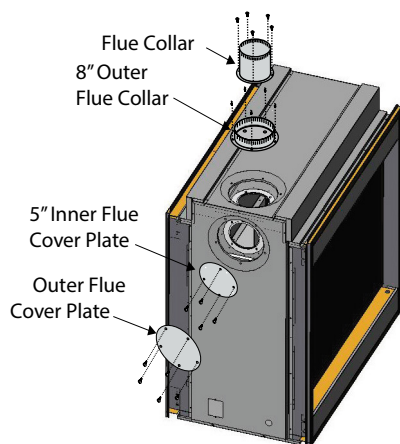

Figure 8. Flue cover and collar removal, Top Vented fireplace.
1. Remove the Side flue cover and gasket (5" and 8") on the flue outlet, as shown in Figure 8.
outlet, as shown in Figure 8.